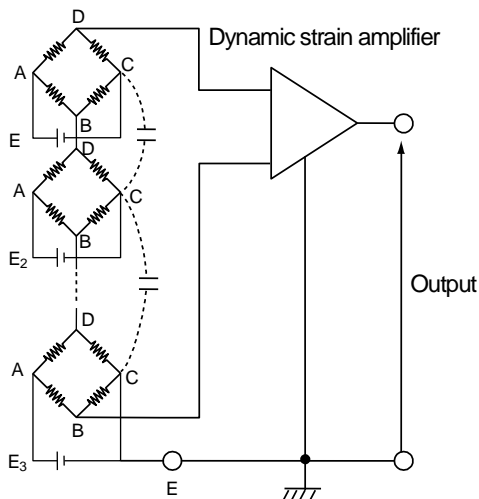

Fig. 4-13
(1) When calculating value of addition (Fig. 4-13)
For use as above Fig. 4-13 to 4-15, rated capacity needs to be equal if using transducers, and special attention is required on capacity of the bridge supply if using dynamic strain measuring equipment.